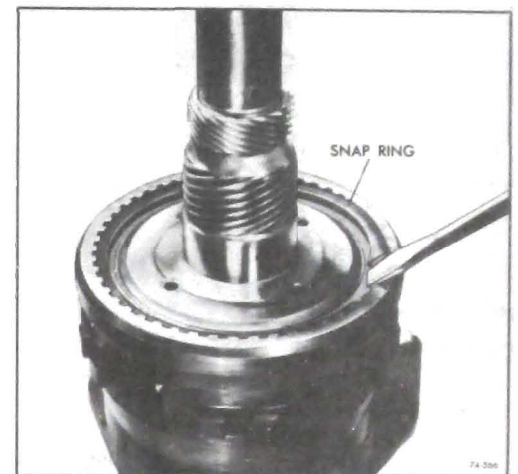

Figure 76-566
9. Remove output shaft to rear carrier snap ring. See Figure 76-566.